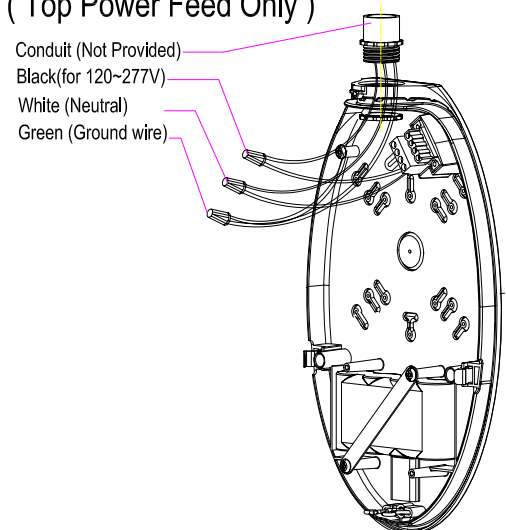

Figure 4
2. For photo sensor operation, leave the jumper between terminals 1 and 2 and slide the slide switch to the Photo Sensor position (see Fig. 4 for wiring connections). The photo sensor will turn the fixture on when the ambient lighting < 10 Lux, and off when the ambient lighting > 30 Lux.
- Figure 4: Wiring diagrams for photo sensor